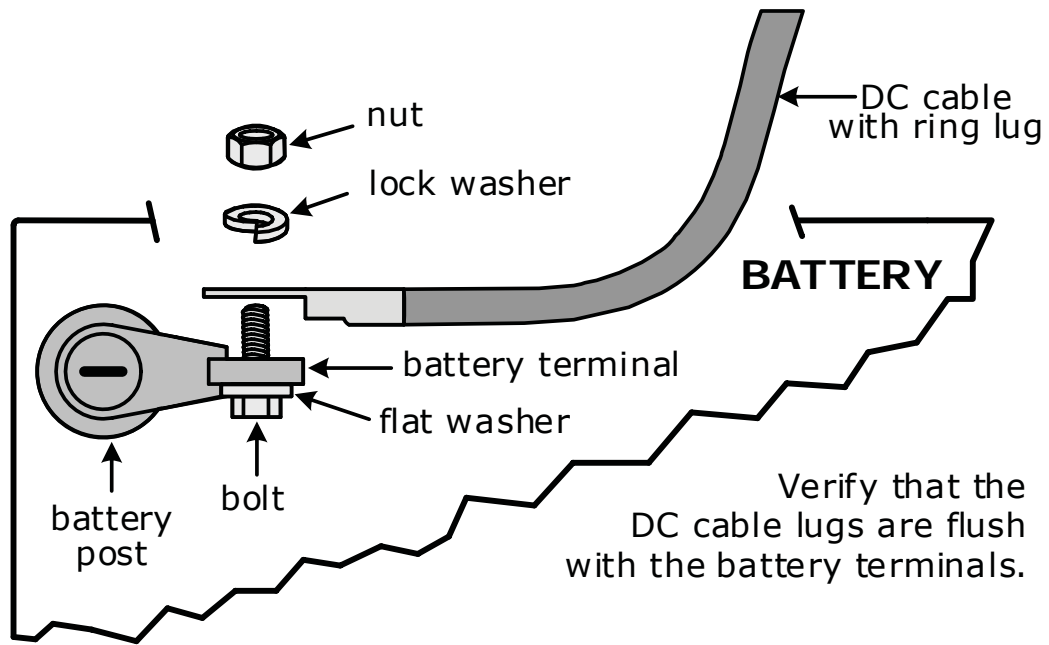
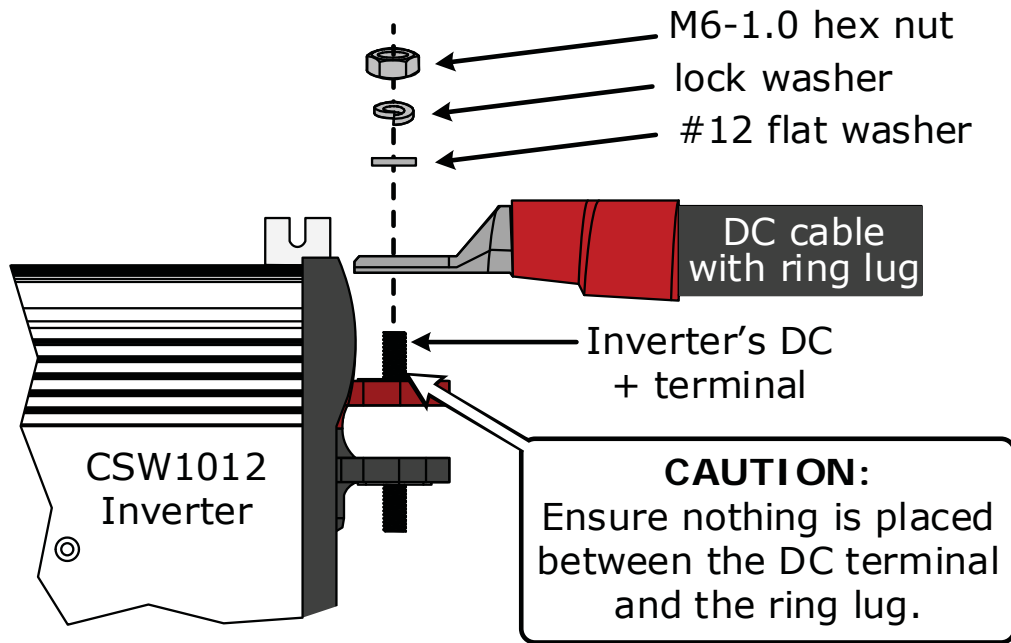

Figure 2-7, DC Cable to Battery Terminals
Figure 2-8, DC Cable to Inverter's DC Terminals
Refer to Figure 2-7 when connecting the DC wires to the battery, and to Figure 2-8 when connecting to the inverter. Also, consider the following requirements to ensure maximum performance:
Do not put anything between the battery cable ring lug and the battery post (see Figure 2-7), or the flat metal part of the inverter's DC terminal (see Figure 2-8). When connecting the battery cable, it should be placed directly against the battery post or inverter terminal. Incorrectly installed hardware causes a high resistance connection which could lead to poor inverter performance, and may melt the cable and terminal connections. See Table 2-1 for the torque requirements.
5. Ensure the DC wire connections (on the batteries, inverter, and DC circuit breaker/fuse) are flush on the surface of the DC terminals, and all hardware used to hold these connections are stacked correctly (see Figures 2-7 and 2-8). Verify all DC connections on the inverter are torqued correctly (see Table 2-1), and the total cable distance from the inverter to the battery is within the requirement of Section 2.4.1 (DC Wire Sizing).